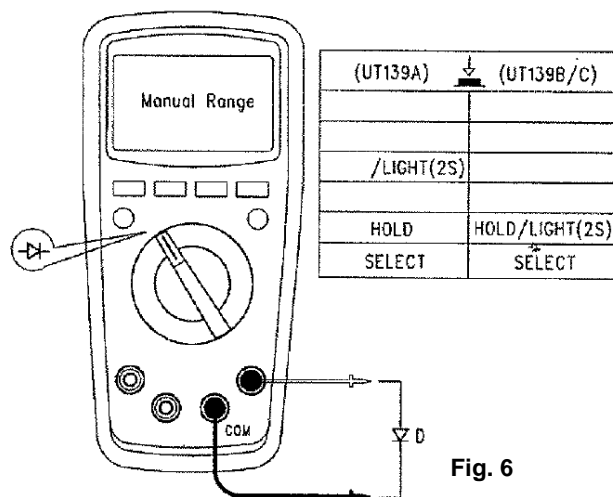

Fig. 6
**4. MASURAREA DIDELOR ( fig.6)**